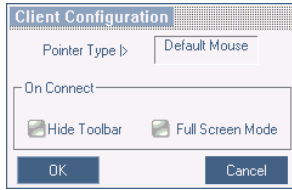

Figure 36 Client Configuration Dialog box
**Local Settings** – Click Local settings, the Client Configuration Dialog box appears, see Figure 36